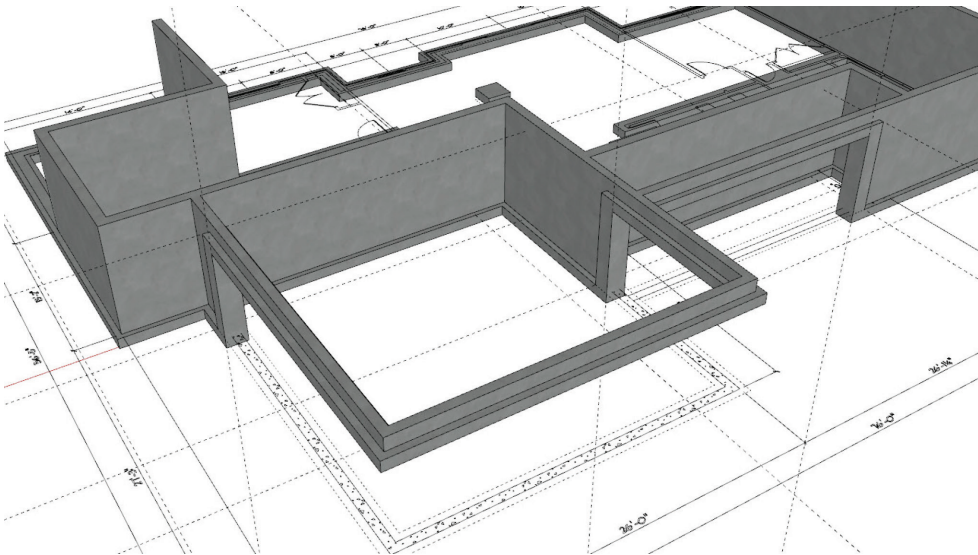

Figure 10.54 Stepped Footing 5.
Now that I have this new face, I need to push (P) it up 8' (presently the height is 8'-10") to maintain a 10" deep footing in this area. The image in Figure 10.54 shows the completed footing in this area.